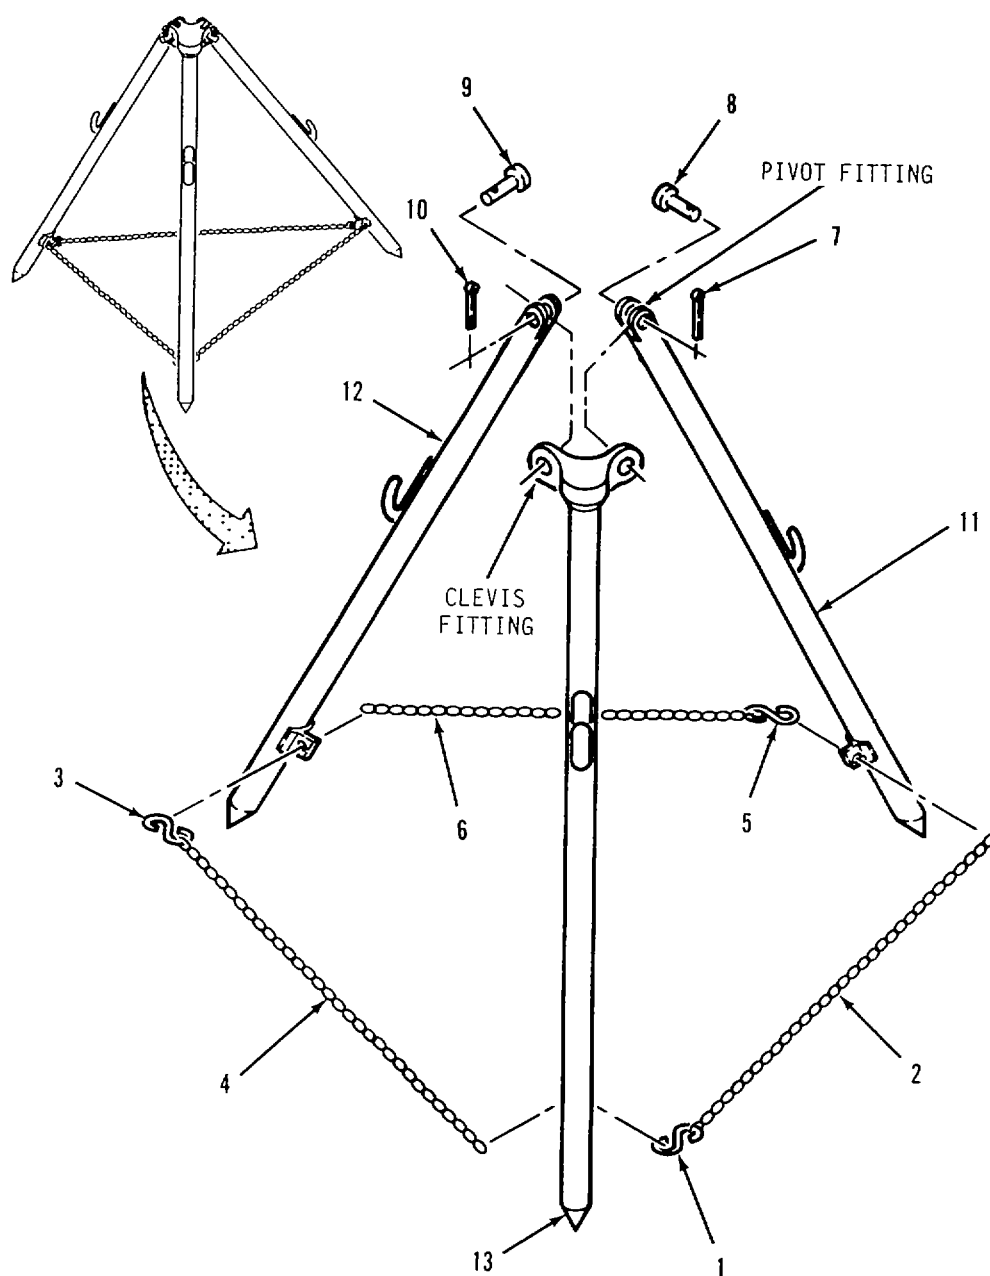

Figure 4-13. Nozzle Stand Repair.
a. Disassembly. Refer to figure 4-13
- (1) Unbend and remove S-hooks (1, 3 and 5) and disconnect chains (2, 4 and 6)
- (2) Remove cotter pin (7) and straight pin (8), then remove leg (11) from leg (13)
- (3) Remove cotter pin (10) and straight pin (9), then remove leg (12) from leg (13)
- (1) Wash all components with clean water and detergent
- (2) Rinse components in clean water and dry with wiping rag
c. Inspection. Refer to figure 4-13
- (1) Inspect legs (11,12 and 13) for cracks, broken clevis ends and bent or missing nozzle hangers
- (2) Inspect chains (2, 4 and 6) for broken links
e. Assembly. Refer to figure 4-13
- (1) Position clevis fitting on leg (12) over pivot fitting on leg (13)
- (2) Install straight pin (9) through pivot fitting and clevis Install cotter pin (10) in straight pin
- (3) Aline clevis fitting on leg (13) with pivot fitting on leg (11)
- (4) Install straight pin (8) Install cotter pin (7) in straight pin.
- (5) Connect chains (2, 4, and 6) to legs (11, 12, and 13) with S-hooks (1, 3 and 5)